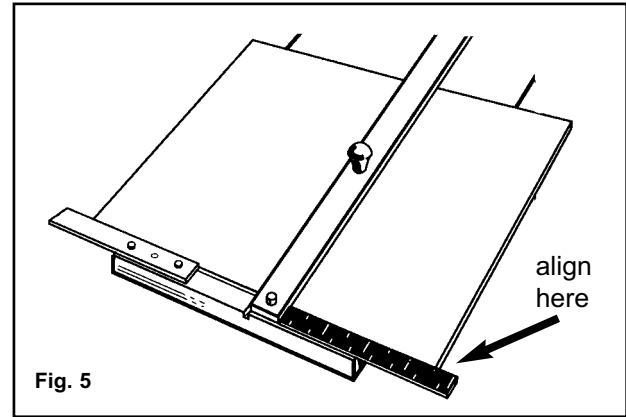

Fig. 5
2. Slide matboard under guidebar and against squaring bars. Align mark with guidebar edge. (Fig. 5)